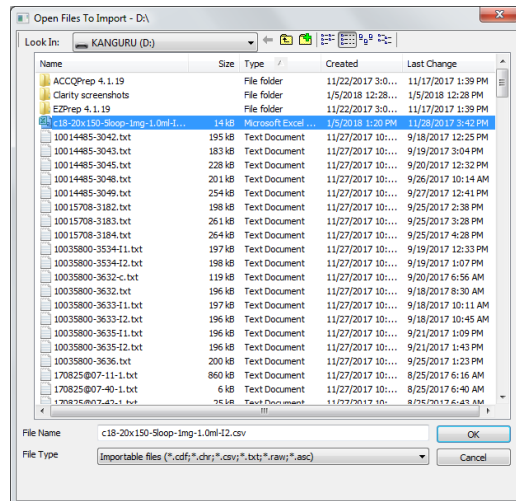

Figure 9: Modifiable variables
- Go to FILE and select IMPORT CHROMATOGRAM, then select the CSV (*.csv) file you would like to open (Figure 9).